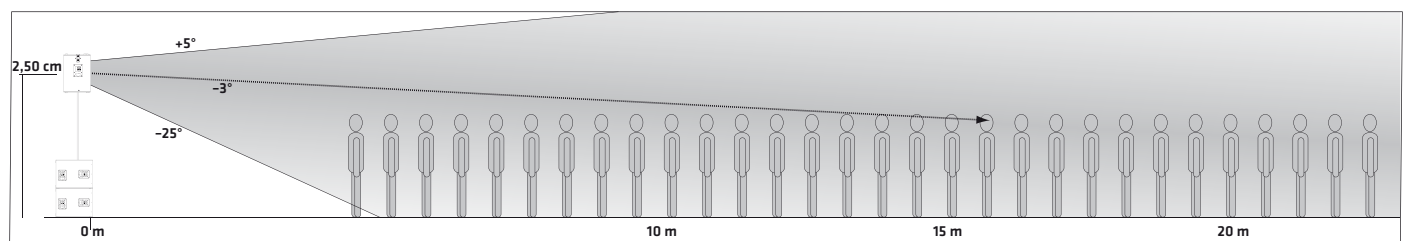
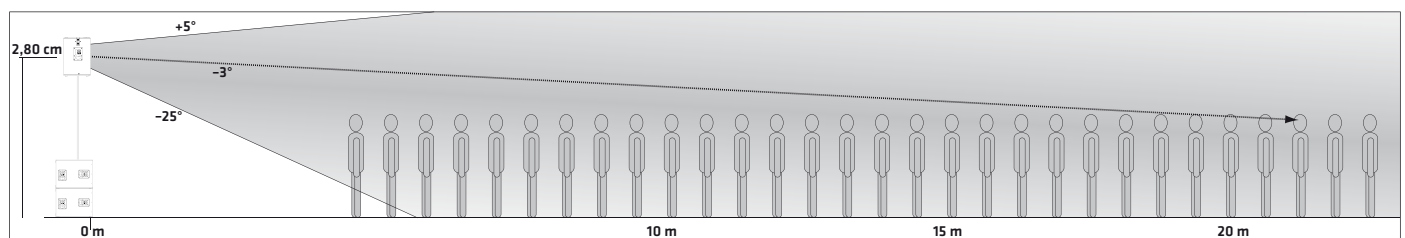

Fig. 3
Fig. 4
- The height of the speaker cabinet therefore defines the range. As a guideline: If the centre of the speaker cabinet is at a height between 2.50 m (Fig. 3) and 2.80 m (Fig. 4), the central axis hits the ears of the listeners after 15.50 m – 21 m for a person measuring 1.70 m tall.